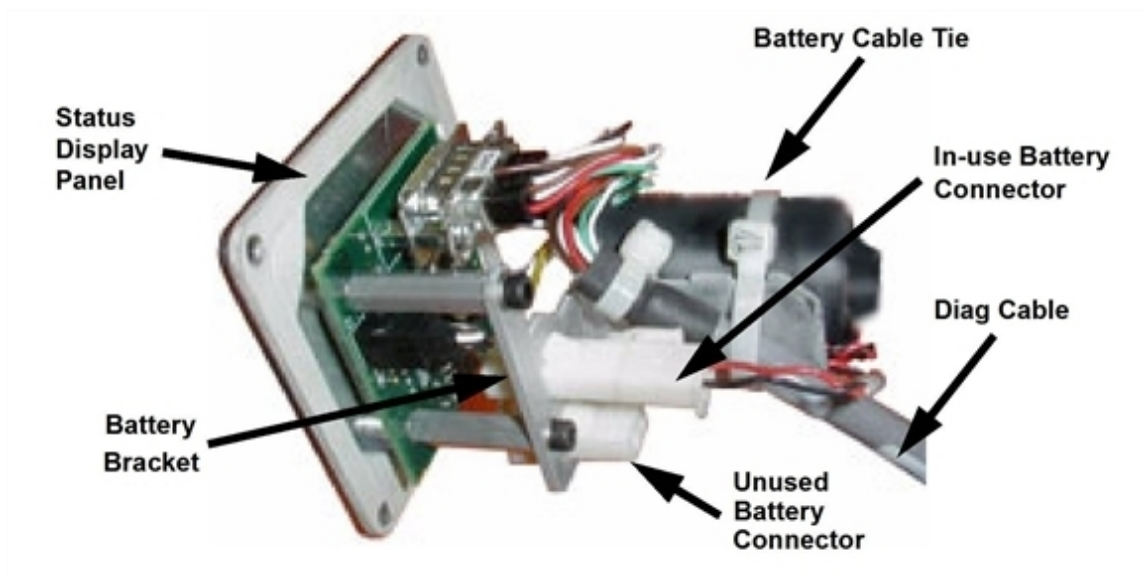

Figure 8-9. Battery Bracket on Status Display Panel
There is only one way to plug in the connector. See Figure 8-9.
- The “diag” cable must be cable-tied to the bracket (and battery pack) to relieve strain on the Status Display connector. See Figure 8-9.